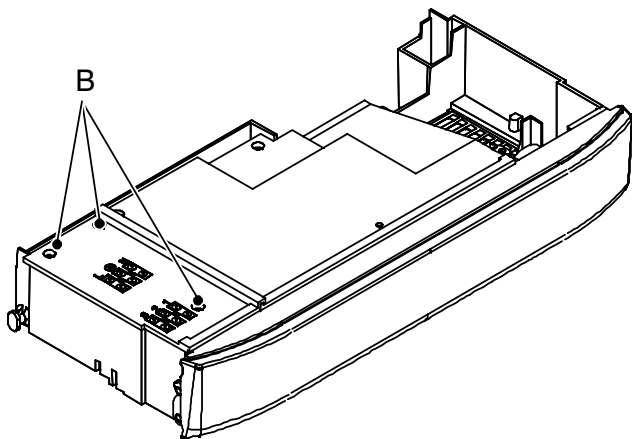

Fig. 7.7
- 4 Loosen the screws B and remove the service panel (Fig. 7.7).